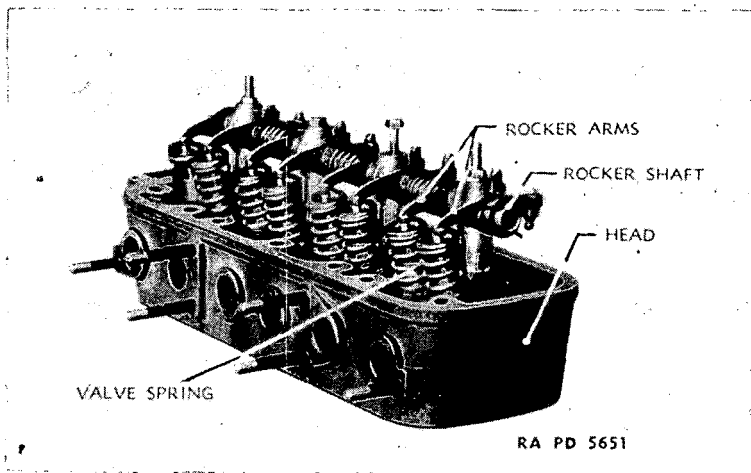

FIGURE 13.—Cylinder head assembly.
43. Cylinder head.—*a.* The cylinder head (figs. 13 and 14) is of the valve-in-head type with removable valve guides.